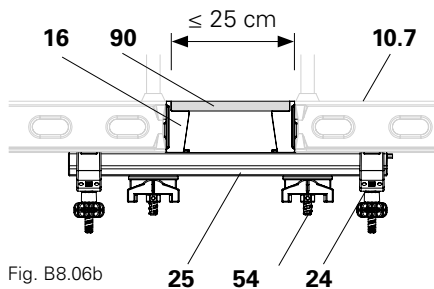

Fig. B8.06b
3. Install compensation waler DUO 62 (25) with DUO scaffold pipe clip (24).
4. Guide the tie through the tie points of the panel (54). (Fig. B8.06b + B8.06c)